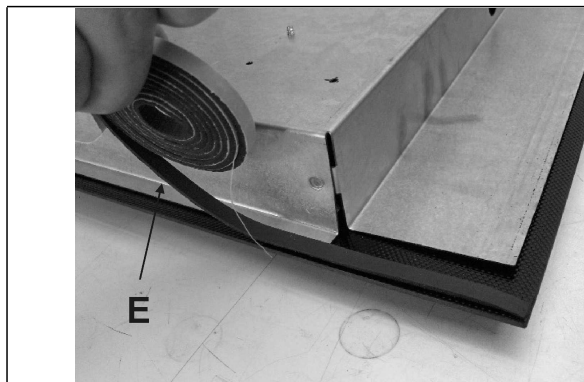

FIG. 8
- Turn the hob upside down and place the adhesive side of the seal "E" (fig. 8) correctly under the edge of the hob so that the outer edge of the seal perfectly matches the outer perimeter edge of the glass. The ends of the strips must match without overlapping.